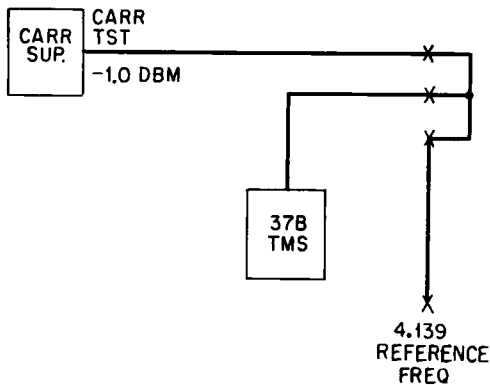

Fig. 2 — Test Arrangement for Calibration of Carrier Frequency Oscillator
- (1) Set up test arrangement shown in Fig. 2 using the multiple jacks in the jack panel of the receiving console. Tune the 37B set to 4.139 mc.
- (2) Slowly change the FREQ ADJ control on the carrier supply panel until the db meter needle oscillates rapidly. Continue turning the FREQ ADJ control until needle has a very